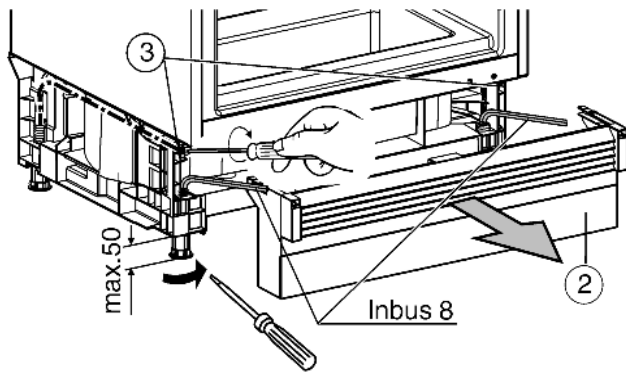

Fig. 12
- ▶ Align the appliance by adjusting the feet so that it stands straight: Extend the rear adjustable-height feet by turning the screws Fig. 12 (3). Extend the front adjustable-height feet using a screwdriver, if they are fully retracted extend them using an 8-mm Allen key. Appliance should be slightly clamped in the recess, between floor and worktop!